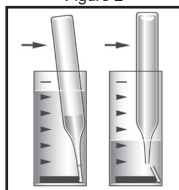

Figure 3
4. **Immediately** place the CHEMet ampoule, tip first, into the sample cup. Snap the tip. The ampoule will fill leaving a bubble for mixing (fig. 3).